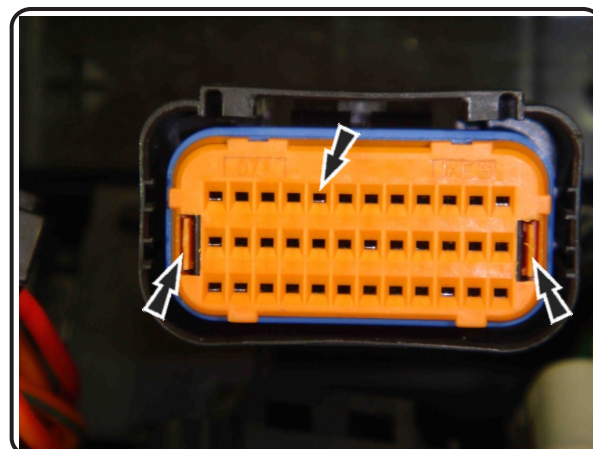

Fig. 2
- 5 Pull out the #5 wire (BLACK WIRE W/ WHITE STRIPE). Insert a very small flat head screwdriver into the hole that the arrow is pointing to in Fig. 2. Gently pry down with the screwdriver to unlock the wire and pull on the wire from the rear of the plug to remove.